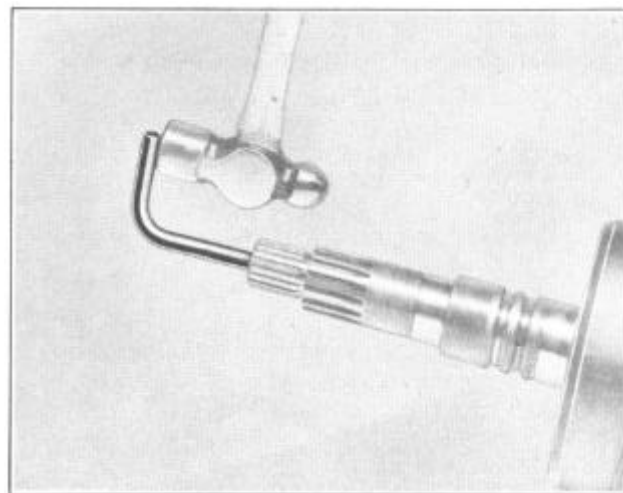

FIGURE 121
10. Check position and tightness of the lubrication valve located in transmission mainshaft, see Cross Section, Page IV. The lubrication valve is threaded at the front end. To test for tightness, install Test Rod 1-5481 onto the threaded end of the lubrication valve and tap end of Test Rod, Figure 121.